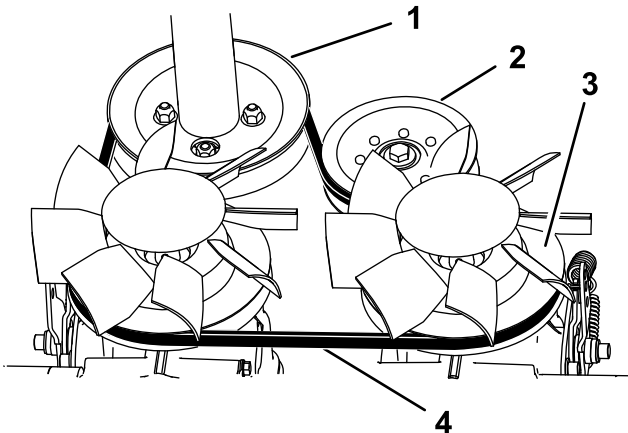

Figure 40
9. Route the new belt around the engine pulley and 2 transmission pulleys (Figure 40).